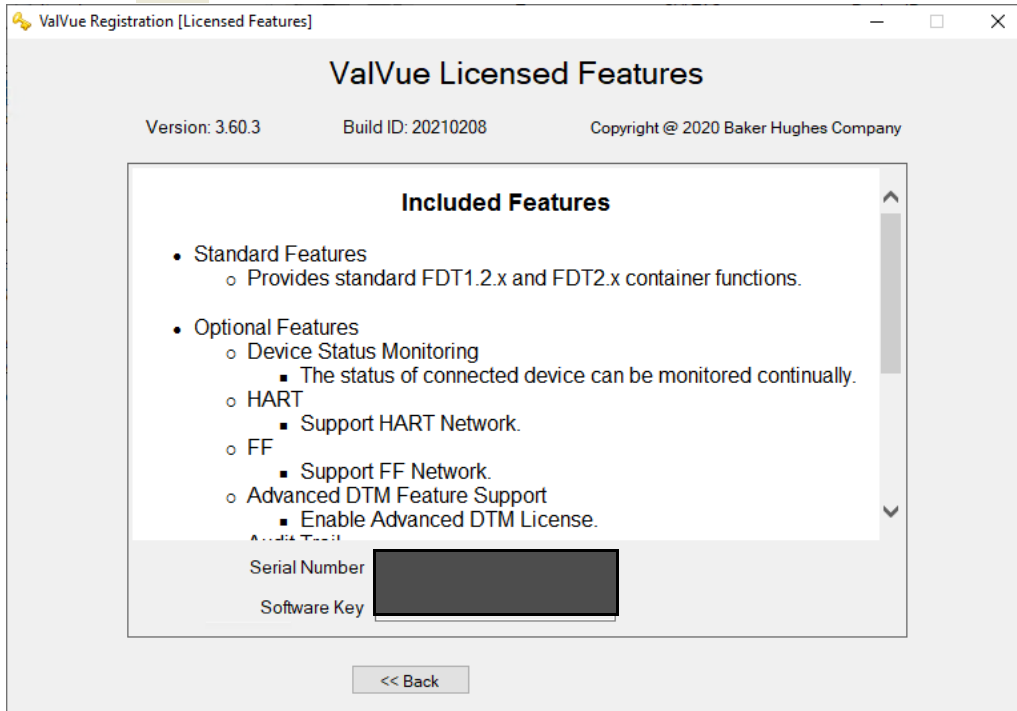

Figure 88 Included Features
2. Click  and Figure 88 appears.